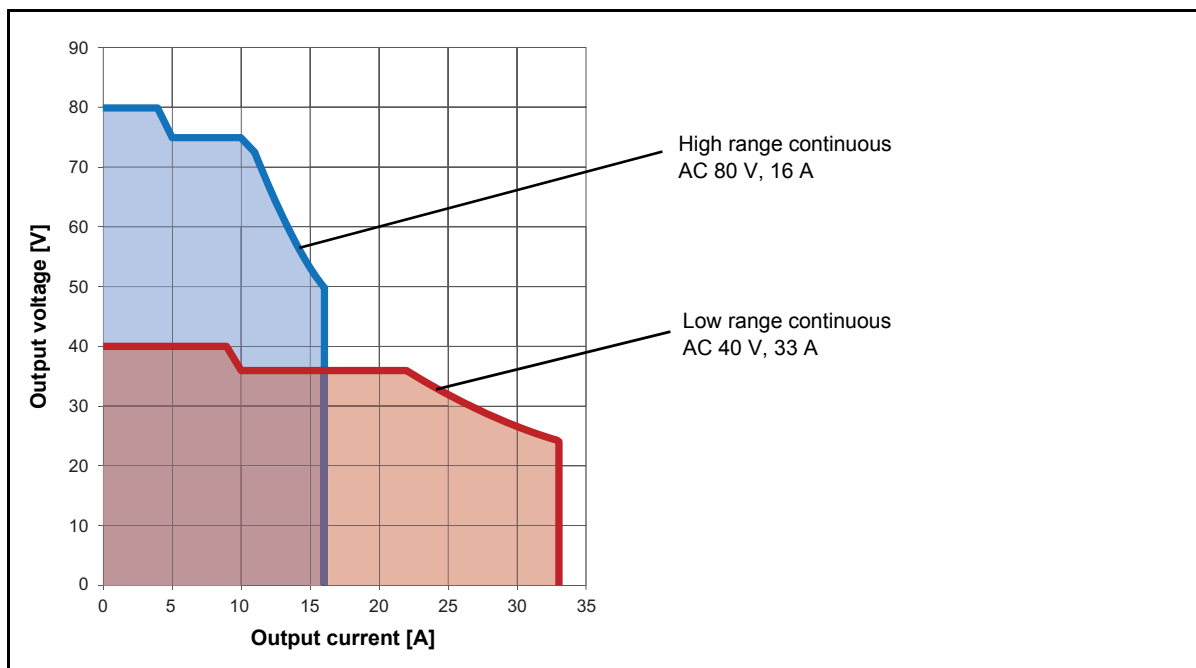

Figura 1-4: Permitted operating range 3 x AC 80 V 16 A
4. See Figura 1-4: "Permitted operating range 3 x AC 80 V 16 A" en la página 7
3. See Figura 1-4: "Permitted operating range 3 x AC 80 V 16 A" en la página 7